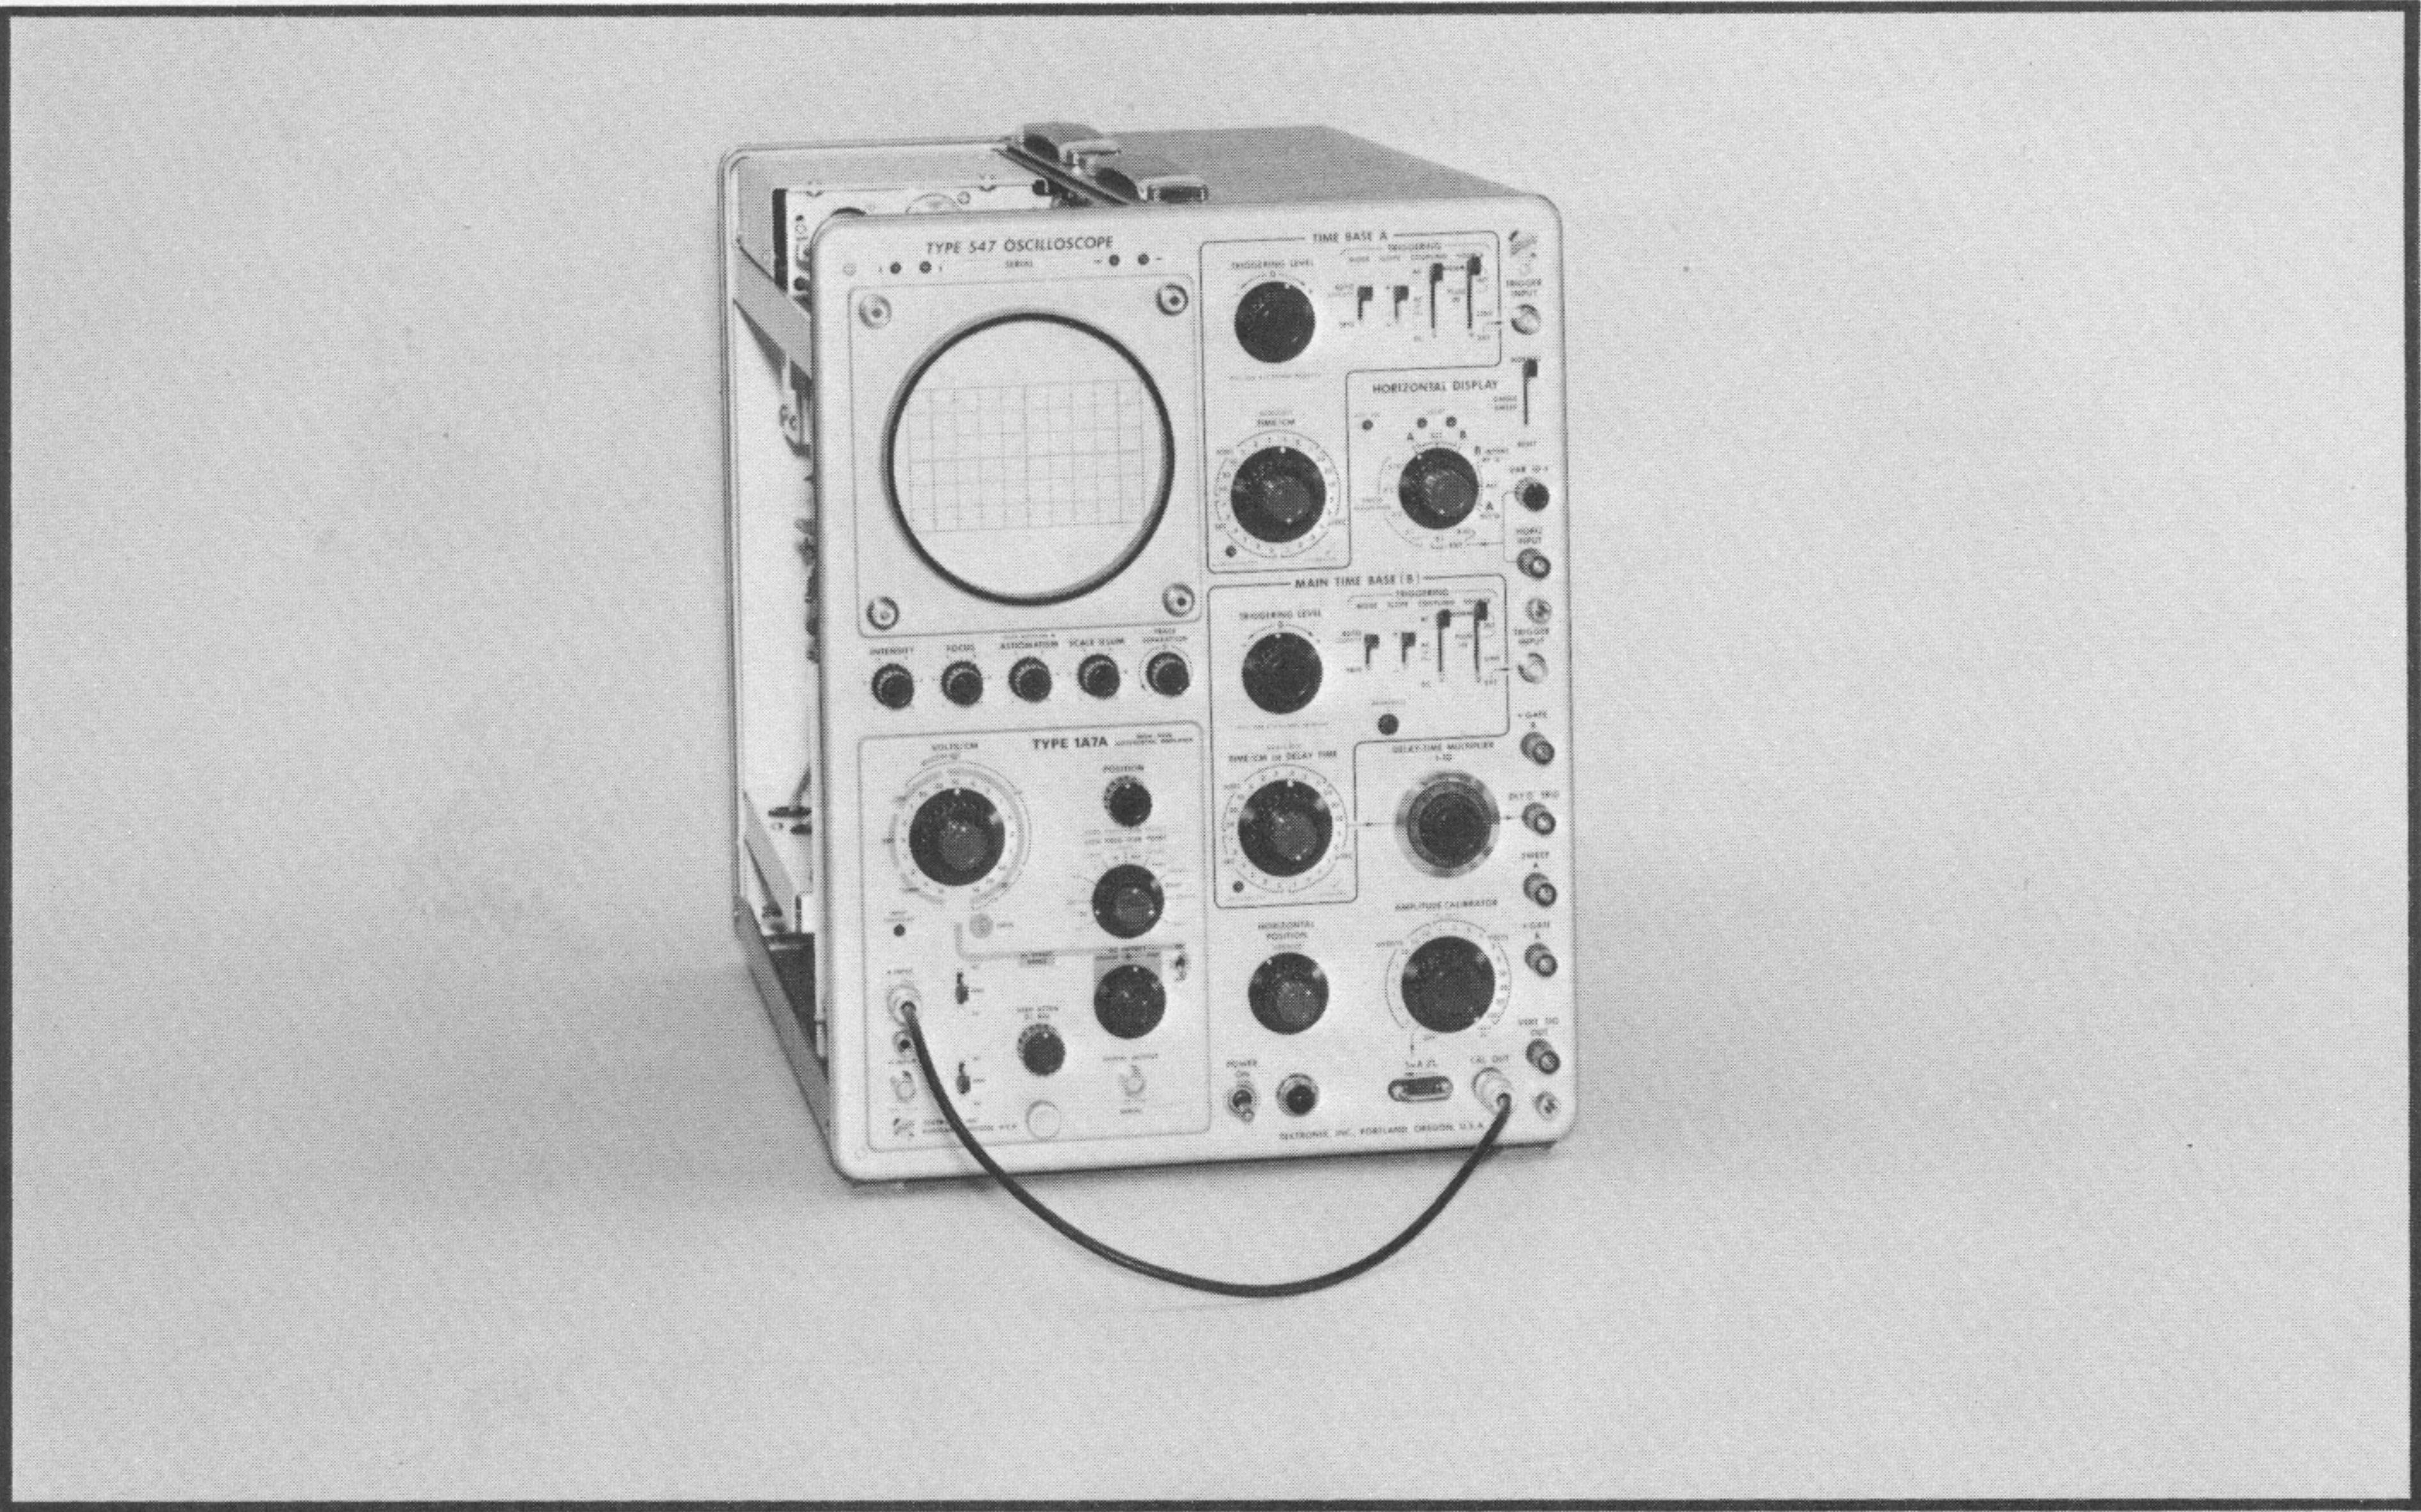

Fig. 5-18. Test equipment setup for step 16.
a. Test equipment setup is shown in Fig. 5-18.